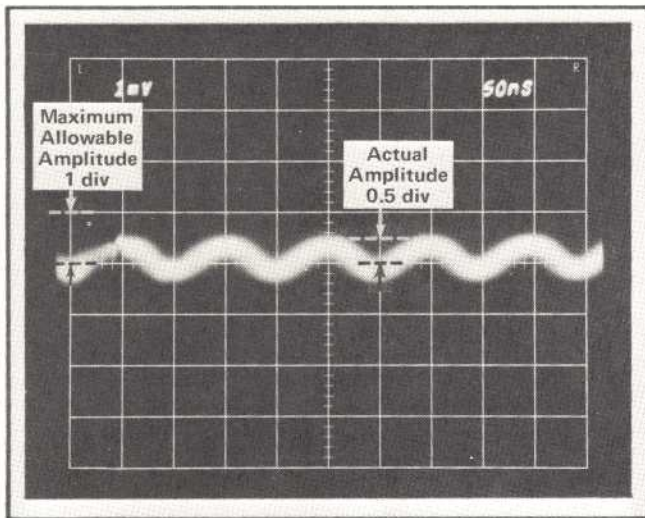

Fig. 5-21. Measuring the peak-to-peak amplitude of a common mode difference signal. Vertical deflection factor: 1 mV/div; sweep rate: .05 μ s/div.
g. CHECK—One division or less display amplitude. This is equivalent to a CMRR of 1,000:1 or greater. Measure the peak to peak excursion, excluding the trace thickness, as shown in Fig. 5-21.